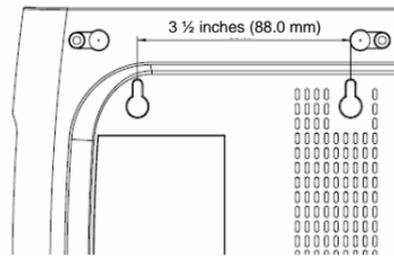

Figure 4: Distance (horizontal) Between Brackets for Screws
1. Install two screws horizontally apart on a wall using the measurement shown in Figure 4. The screws should protrude from the wall in order to fit the device between the head of the screw and the wall. If the screws are installed in drywall, use hollow wall anchors to ensure that the unit does not pull away from the wall due to prolonged strain from the cable and power connectors.
Refer to Figures 4 and 5 for more details.